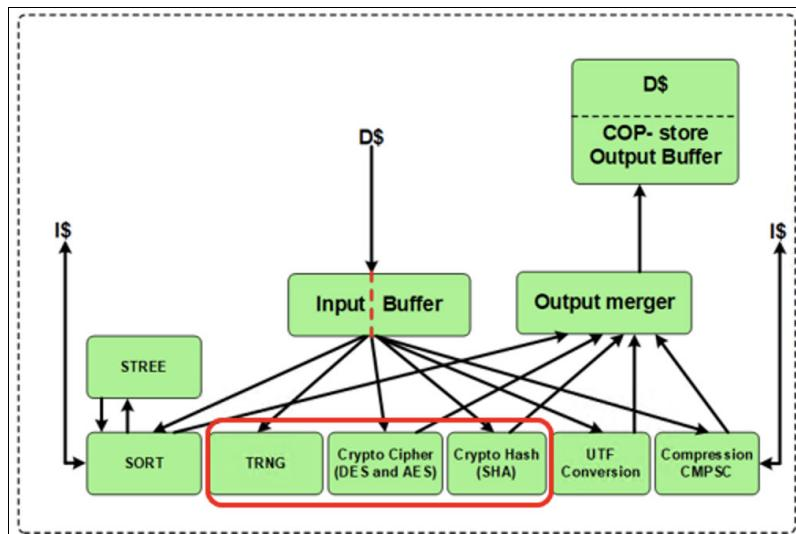

Figure A-1 Compression and cryptography accelerators on a core in the chip
Figure A-1 illustrates the on-core COP. The highlighted (red rectangle) area shows the functional blocks that belong to the CPACF. Exploitation of this unit requires ordering the CPACF feature (Feature Code (FC) 3863).